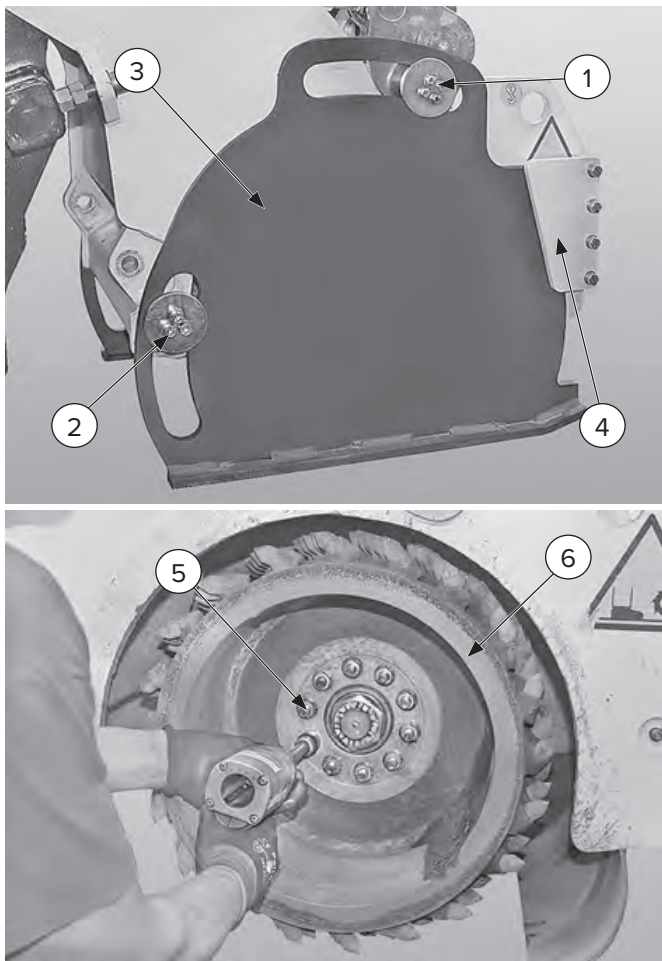

Figure 27
1. Remove the screws, pins [Figure 27, Items 1 and 2, page 32], and plate [Item 3] from the side opposite to the hydraulic motor.